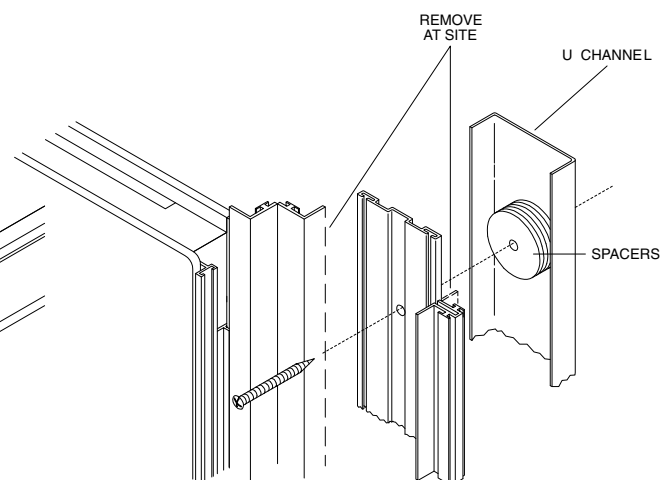

FIG. 2
5. Stick the proper amount of  $\frac{1}{8}$ " cork spacers to the "U-channel" at each hole (Figure 2) to fill any difference between the level and the "U" channel.
7. The panel is now ready for attachment to the wall mount extrusion. This utilizes the same hinge connector attachment which joins all other panels (Figure 2). (You may trim off the light block portion of the hinge on the wall mount side to facilitate installation, if necessary.)